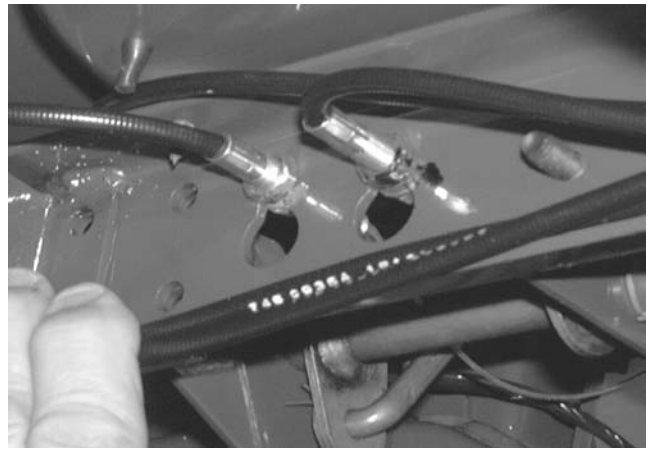

**Figure 8-22.**
15. Looking at the line that was marked on the rear jam nut, loosen the rear jam nut 2 complete rotations using a 1/2" wrench. See Figure 8-22.